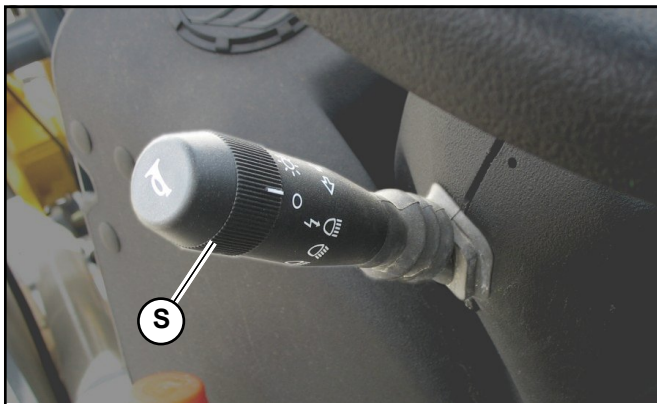

Fig. 226 – Control Lever
4. Twist the end of control lever (S, Fig. 226), and push the control lever downward to activate the road light “high” beams.